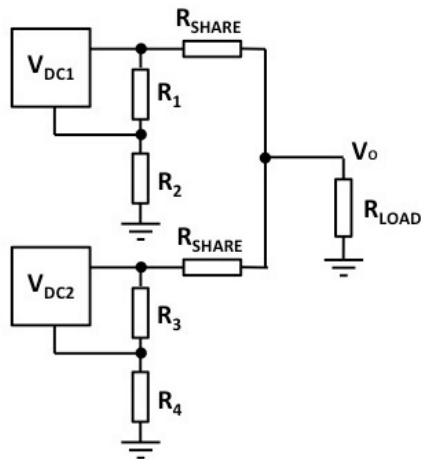

Figure 3. Balancing resistors share load between DC-DC converters
- **Balancing resistors** provide a way for sharing a load either between two or more DC-DC converters. Operating DC-DC converters in parallel may be more cost effective than using a single higher-current unit or may be more desirable in some instances because of physical size constraints or thermal considerations. However simply tying the outputs of two converters together does not ensure they share the load current equally. The equal value R_{SHARE} resistors shown in figure 3 accommodate the difference between the regulated outputs of each converter.